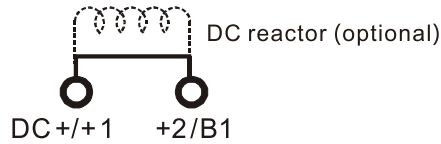

Figure 5-2
- ☑ Terminals for connecting the DC reactor, as shown in Figure 5-2 below, are to improve the power factor and harmonics. At delivery they are shorted by a jumper. Remove the jumper before connecting the DC reactor.